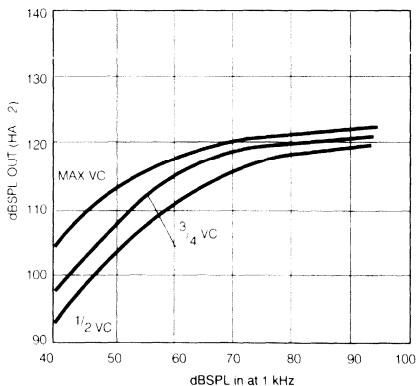

Fig. 1a
Fig. 1 shows a configuration in which gain and threshold are adjusted by a single potentiometer (VC) while the limited output remains constant. The compression characteristic resulting from this circuit is depicted in the graph of Fig. 1a.